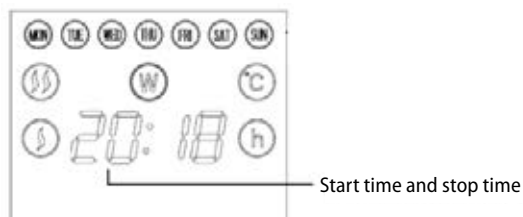

Fig. 7
Press the (DOWN) button to set the start time, then press the button (UP) to set the end time of the operation. After setting the start and end time of the operation, keep pressing the (DOWN) button until you reach the end of the numerical series. At this point, the operation of the convector is set to the desired days, times and heating power output, see Fig. 7. For example, if you want the convector to heat at the weekend from 8:00 to 10:00, press the (WEEK) button to select a weekend mode (SAT, SUN), then keep pressing the (DOWN) button until you the display shows 8:00. After that keep pressing (UP) until the display shows 10:00. Finally keep pressing (DOWN), until you reach the end of the numerical series